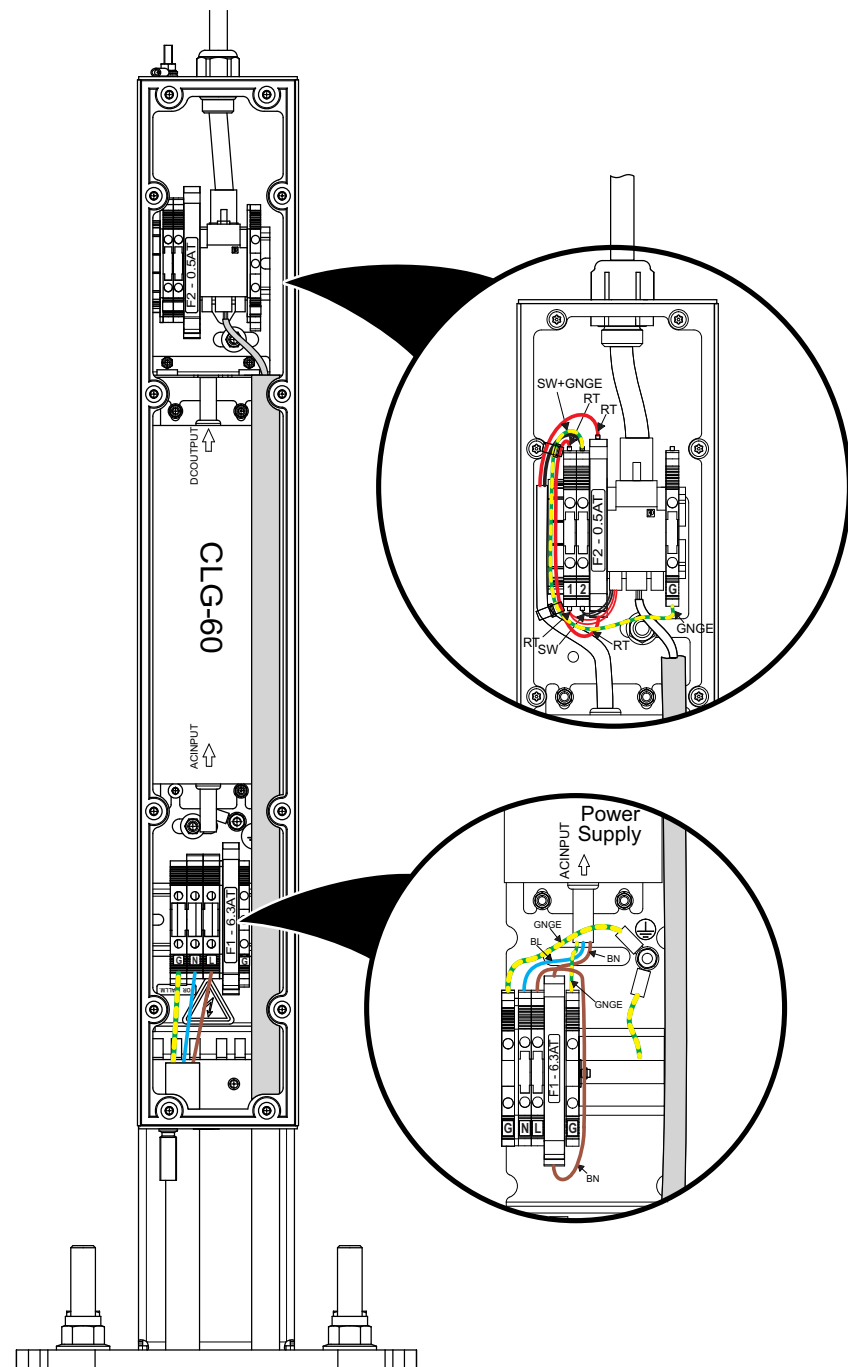

Figure 4-20 Cable Connections
STEP 5: Connect the power source to its respective termination points at the bottom of the Power Supply Junction Box as shown in **Figure 4-20**.